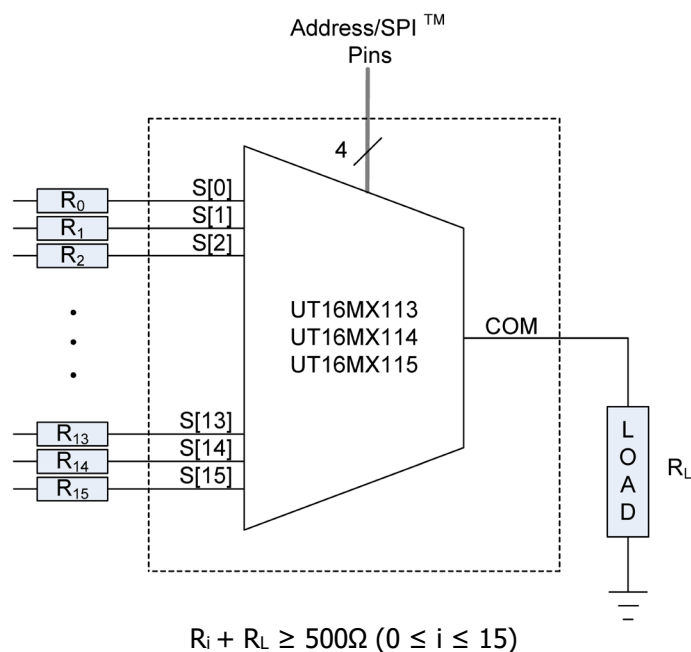

Figure 11. Minimum Total Path Resistance for Continuous DC Operation on Any Single Channel
- 2) Continuous operation with low load resistance is not recommended. (See Figure 11)